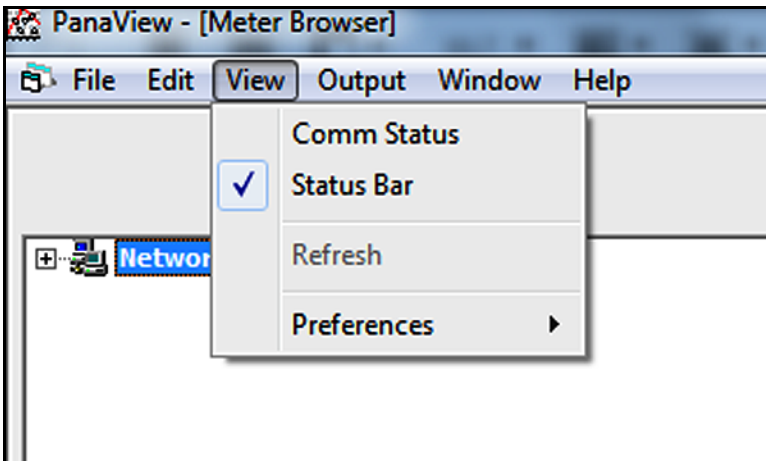
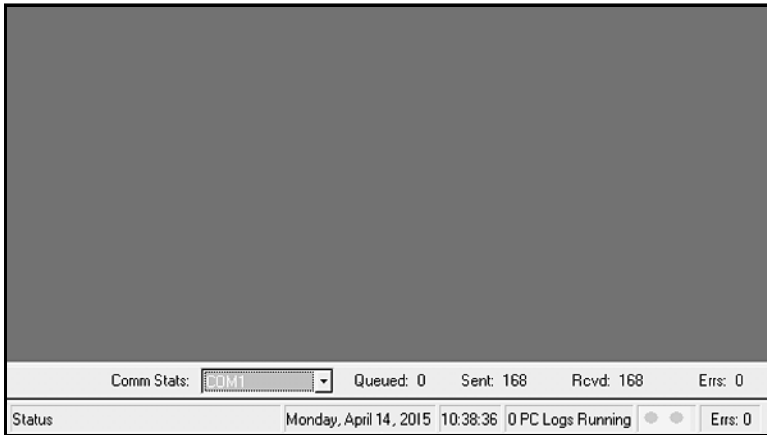

Figure 12: The View Menu
Figure 13: The Comm Status Bar
- **Status Bar** - by default on initial startup, it shows status messages (see *Figure 13 on page 21*) such as: date, time, number of active logs, and number of communication errors (from left to right)
Prior to setting up communications with a meter, the “*View*” menu (see *Figure 12* below) provides three options for customizing the PanaView interface:
This option permits the user to toggle a communications status bar ON and OFF. The default state is “Off” as indicated by the absence of a check mark in *Figure 12 on page 20*. When toggled “On”, the Comm Status bar appears just above the main Status bar (see *Figure 13* below) and displays the following serial communications categories, from left to right:
Note: *To make the image in Figure 13 more readable on this page, the window was compressed horizontally from its actual dimensions.*
The main *Status* bar shown in *Figure 13 on page 21* is always visible when PanaView is first started. However, it may be toggled on and off at any time during a PanaView session by selecting or deselecting it in the “*View*” menu. Its current state is indicated by the absence or presence of a check mark to its left in the *View* menu.
To access the “*Preferences*” option (see *Figure 12 on page 20*), click on it in the “*View*” menu. Then, click on any of the tabs and proceed to the appropriate section for instructions.